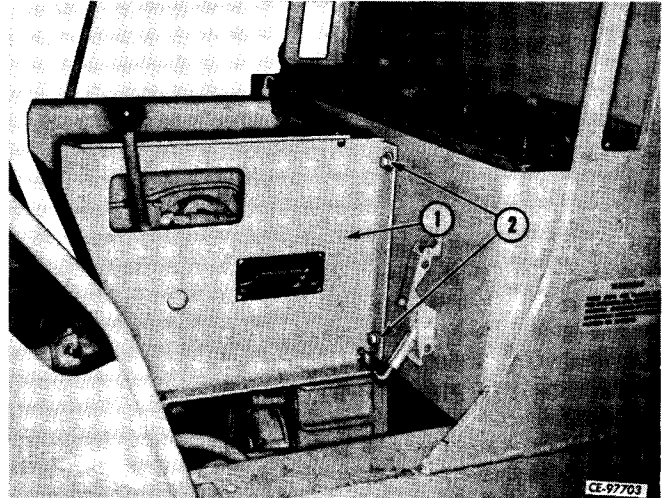

Figure 4-6
Remove cap screws, flat washers (2, Fig. 4-6) and seat base (1).
Position seat base (1, Fig. 4-6) against battery box. Install and tighten cap screws and lock washers (2), on each side.